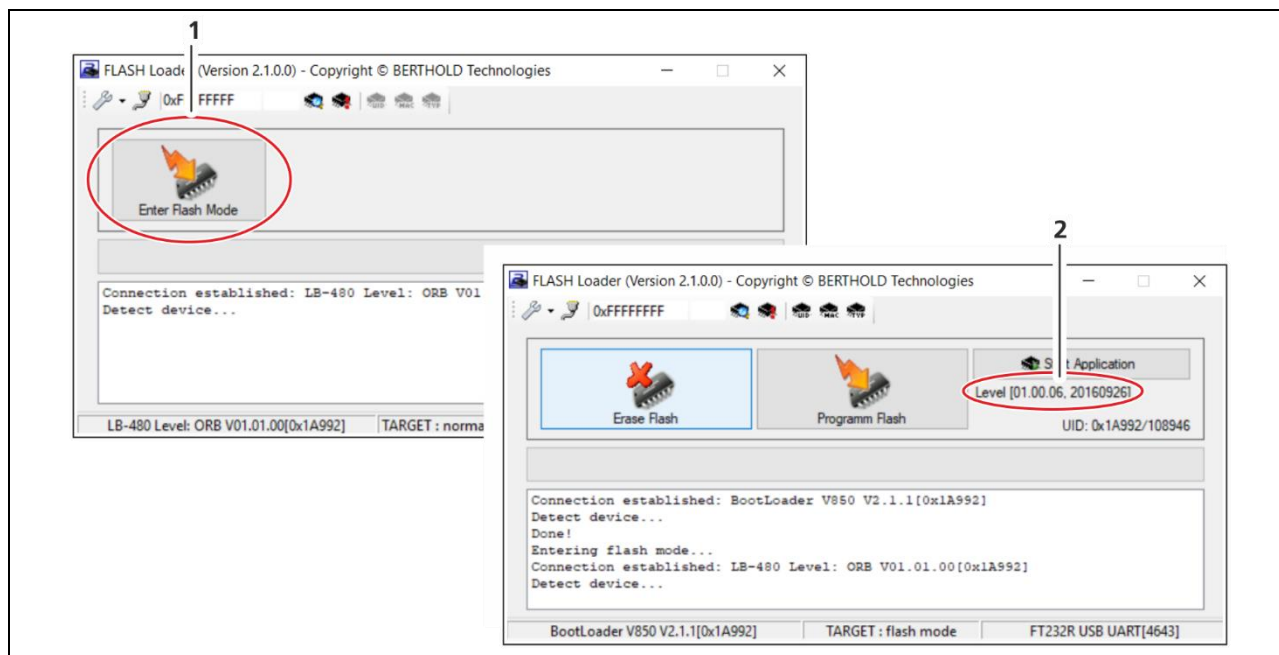

Fig. 5 “Flash Mode” and installed embedded software
24. Click on the button <Enter Flash Mode> to open the programming function (Flash Mode) (Fig. 5, Pos.1).
- The Flash Mode is started, and the version of the installed embedded software is displayed (Fig. 5, Pos.2).